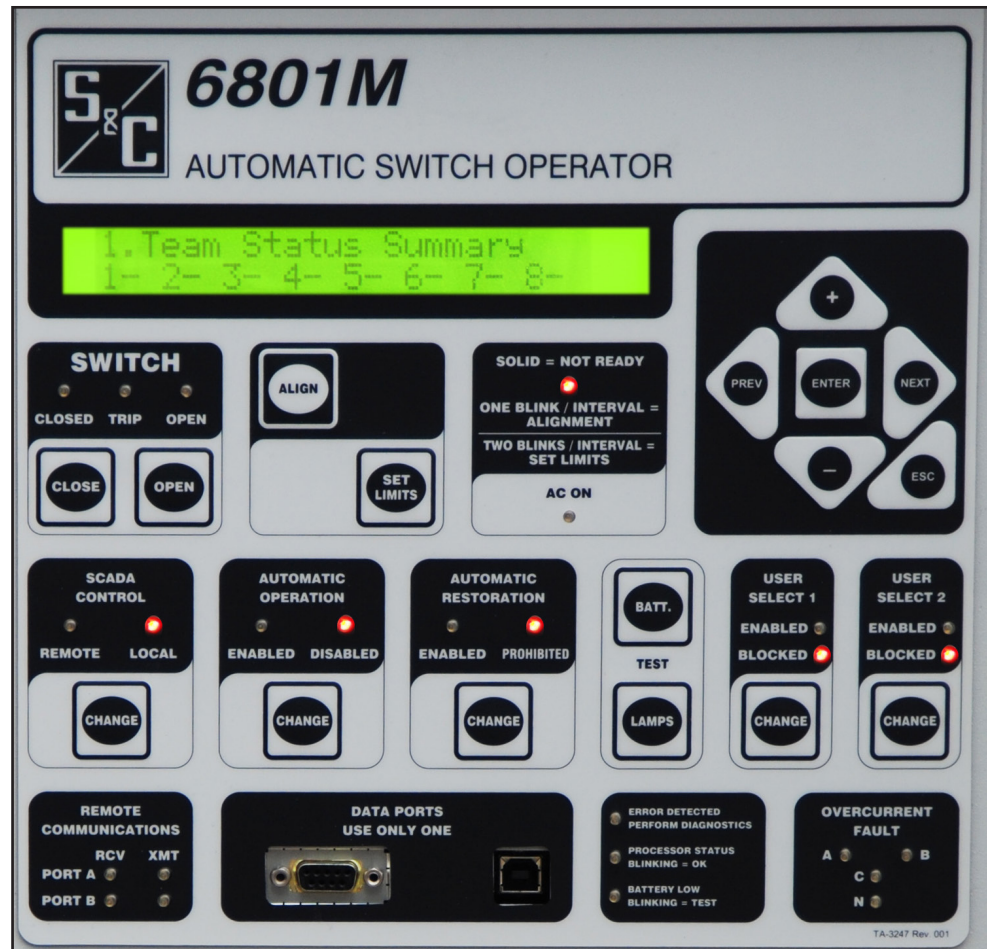

Figure 2. The 6801M Switch Operator faceplate (shown for the 6801M Switch Operator with the IntelliTeam SG software option).
- STEP 5.** Test the faceplate functions. At this point, test most of the faceplate LEDs and buttons. See Figure 2. Reinstall the ac line fuse, and then turn on the 24-Volt circuit breaker. To test the LEDs and switches: